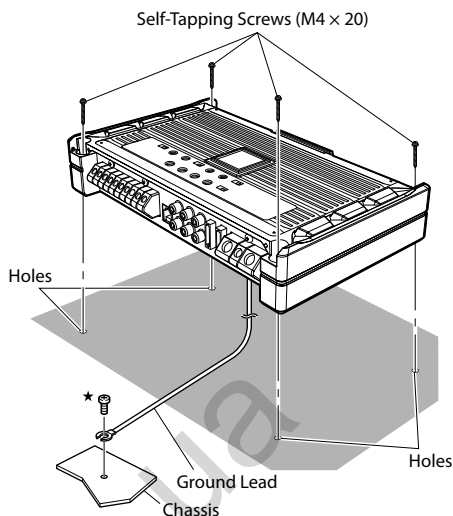

Fig. 3
6. Position the PDR-V75 over the screw holes, and secure with four self-tapping screws. (Fig. 3)